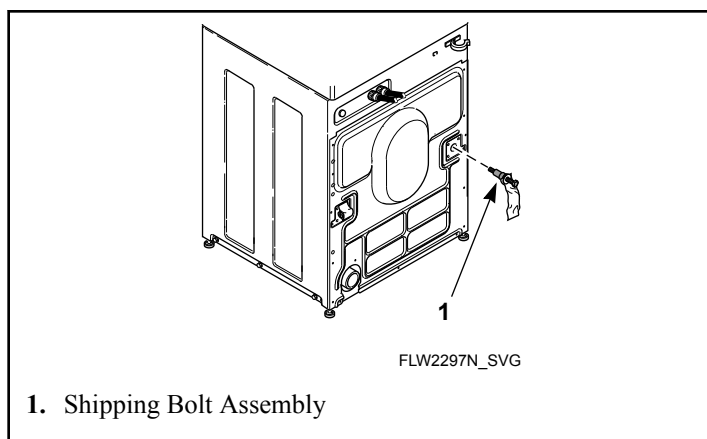

Figure 26
7. Insert shipping bolt assemblies into each shipping bolt hole. Refer to *Figure 26*.